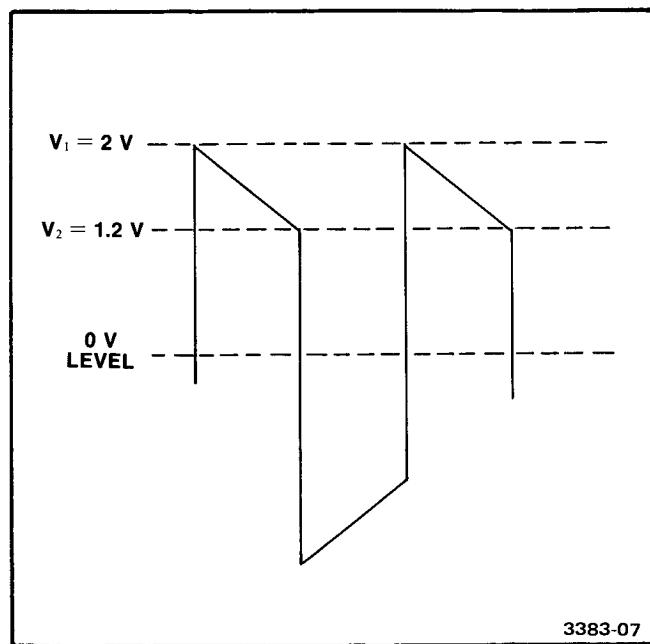

Fig. 2-6. Typical low frequency response curve.
For example; if the applied frequency, F_a , is 10 Hz and the amplitude values shown in Fig. 2-6 are used, the lower cut-off frequency is calculated to be about 1.6 Hz.
2. Slowly reduce the square-wave frequency and adjust the oscilloscope (amplifier) controls to display a signal similar to Fig. 2-6.